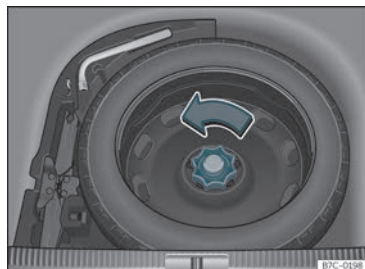

Fig. 267 In the luggage compartment: load floor raised.
- Turn the thumb wheel anti-clockwise >>> Fig. 267.